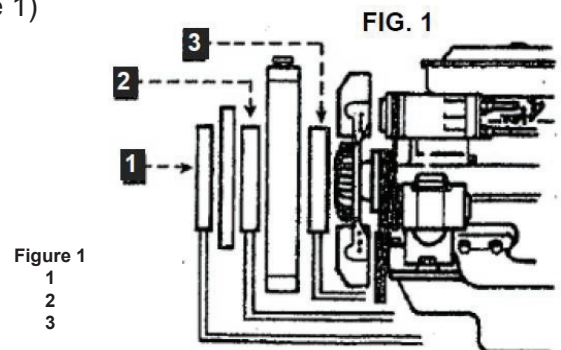

Figure 1. Illustration of Engine Layout.
- #1 Position: 100 percent efficient (in front of AC condenser, Figure 1)
- #2 Position: 75 percent efficient (between AC condenser and radiator, Figure 1)
- #3 Position: 60 percent efficient (between radiator and fan, Figure 1)
2. Position clamps 1/4 to 3/8 inch from end of hose. Tighten clamps until rubber protrudes level with clamp slots. DO NOT overtighten clamps (Maximum 25 inch pounds torque) if mounting oil cooler behind radiator position #3 (Figure 1).